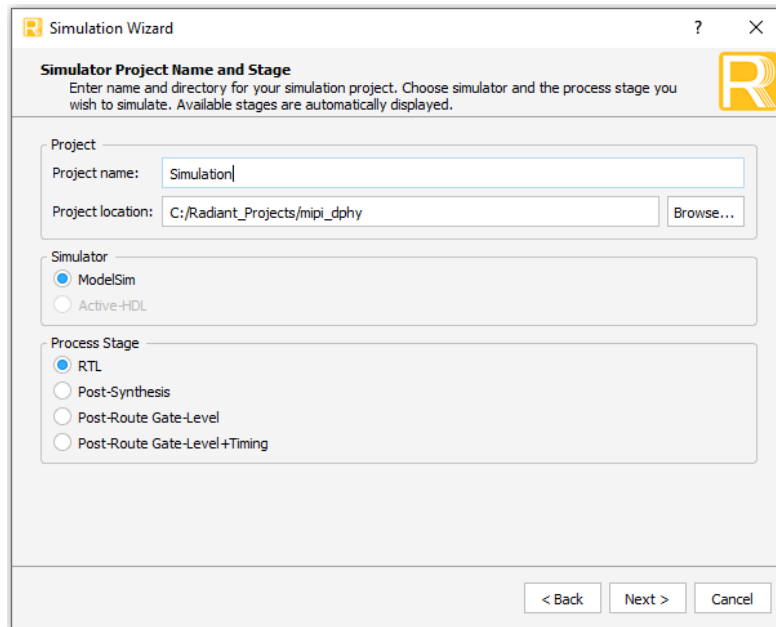

Figure 3.4. Simulation Wizard
1. Click the  button located on the Toolbar to initiate Simulation Wizard, as shown in Figure 3.4.